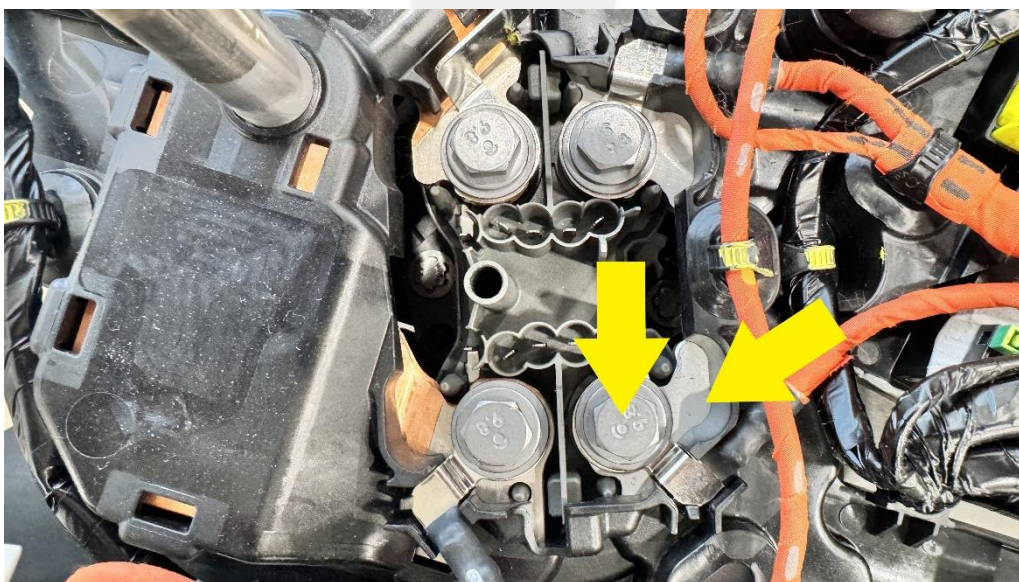

Figure 5
6. Perform a zero adjust to the Hioki meter, and then perform a Hioki impedance measurement at the FC contactor positive joint to positive DC outlet busbar (Figure 5).